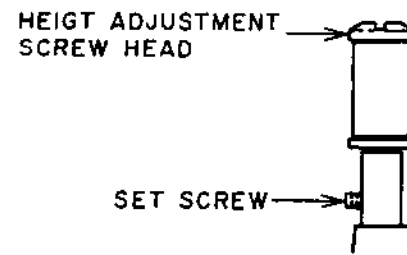

Fig. 5-9
- 1) Slightly loosen the set screw at the lower part of the LOADING LEADERS (L), (R) so that the LOADING LEADER can be adjusted with reasonable tightness. (Refer Fig.5-9)